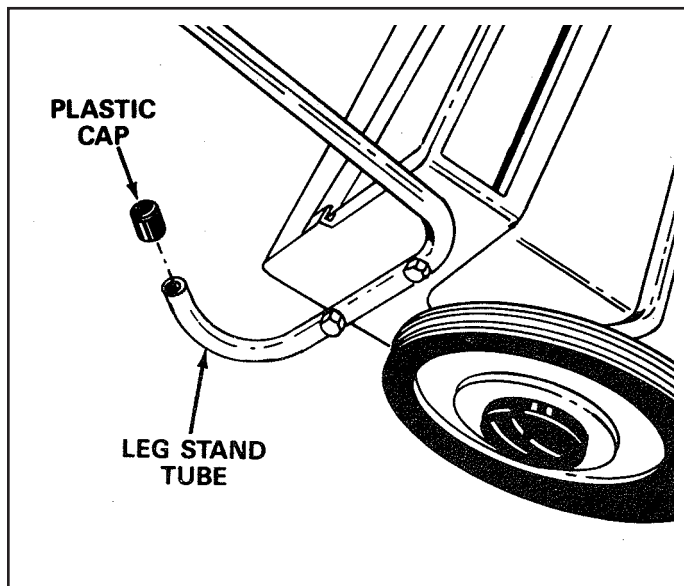

FIGURE 7
10. Assemble the two 3/4" x 7/8" plastic caps onto the ends of the leg stands as shown in figure 7.